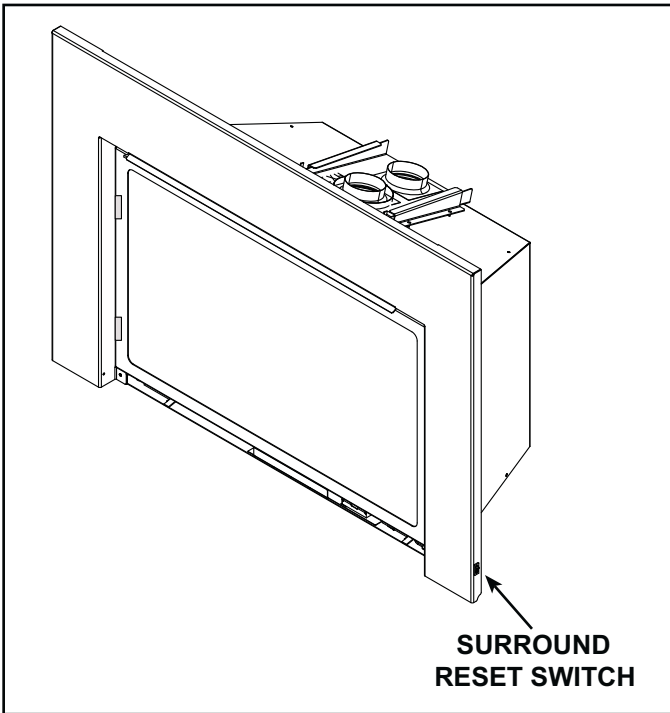

Figure 3.10 Surround Reset Switch and USB-C Battery Backup Port
- Toggle the appliance reset switch to the off position . See Figure 3.10 for reset switch location.